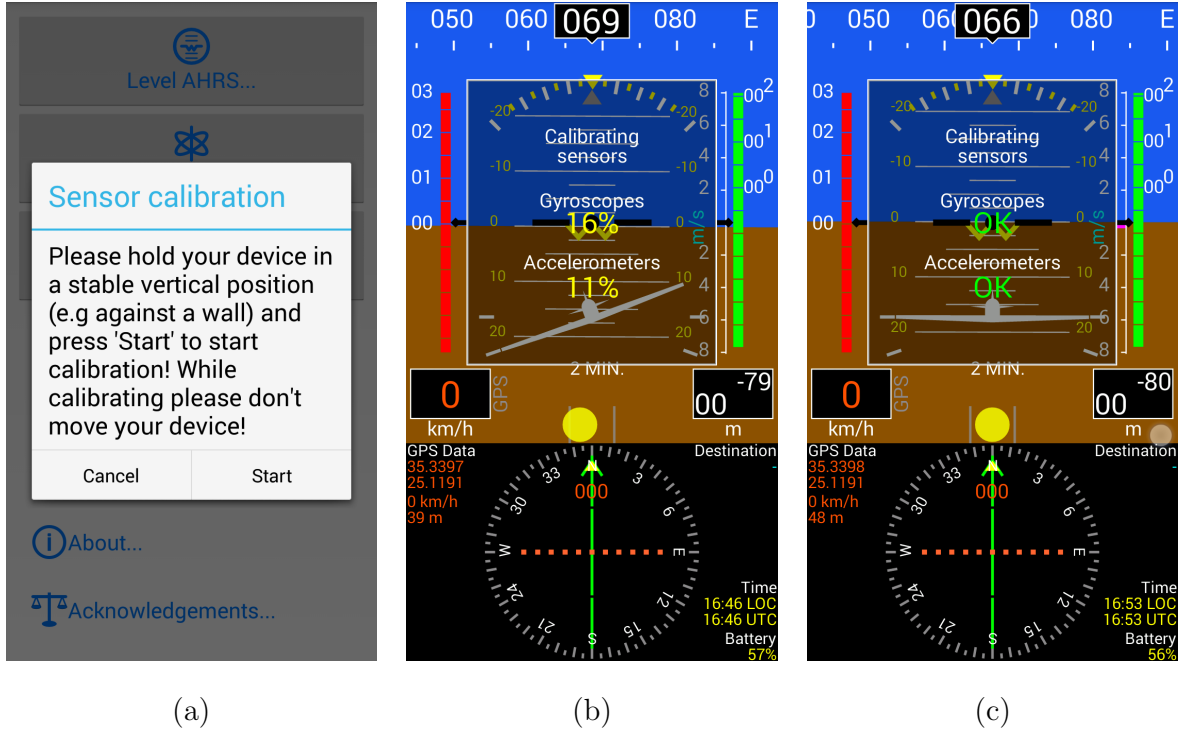

Figure 6: Sensor calibration. (a) Press “Start” to begin sensor calibration. (b) Sensor calibration in progress. (c) Sensor calibration finished.
- AEFIS will return back to the main screen and the “Sensor calibration” window (Fig. 6) will appear.